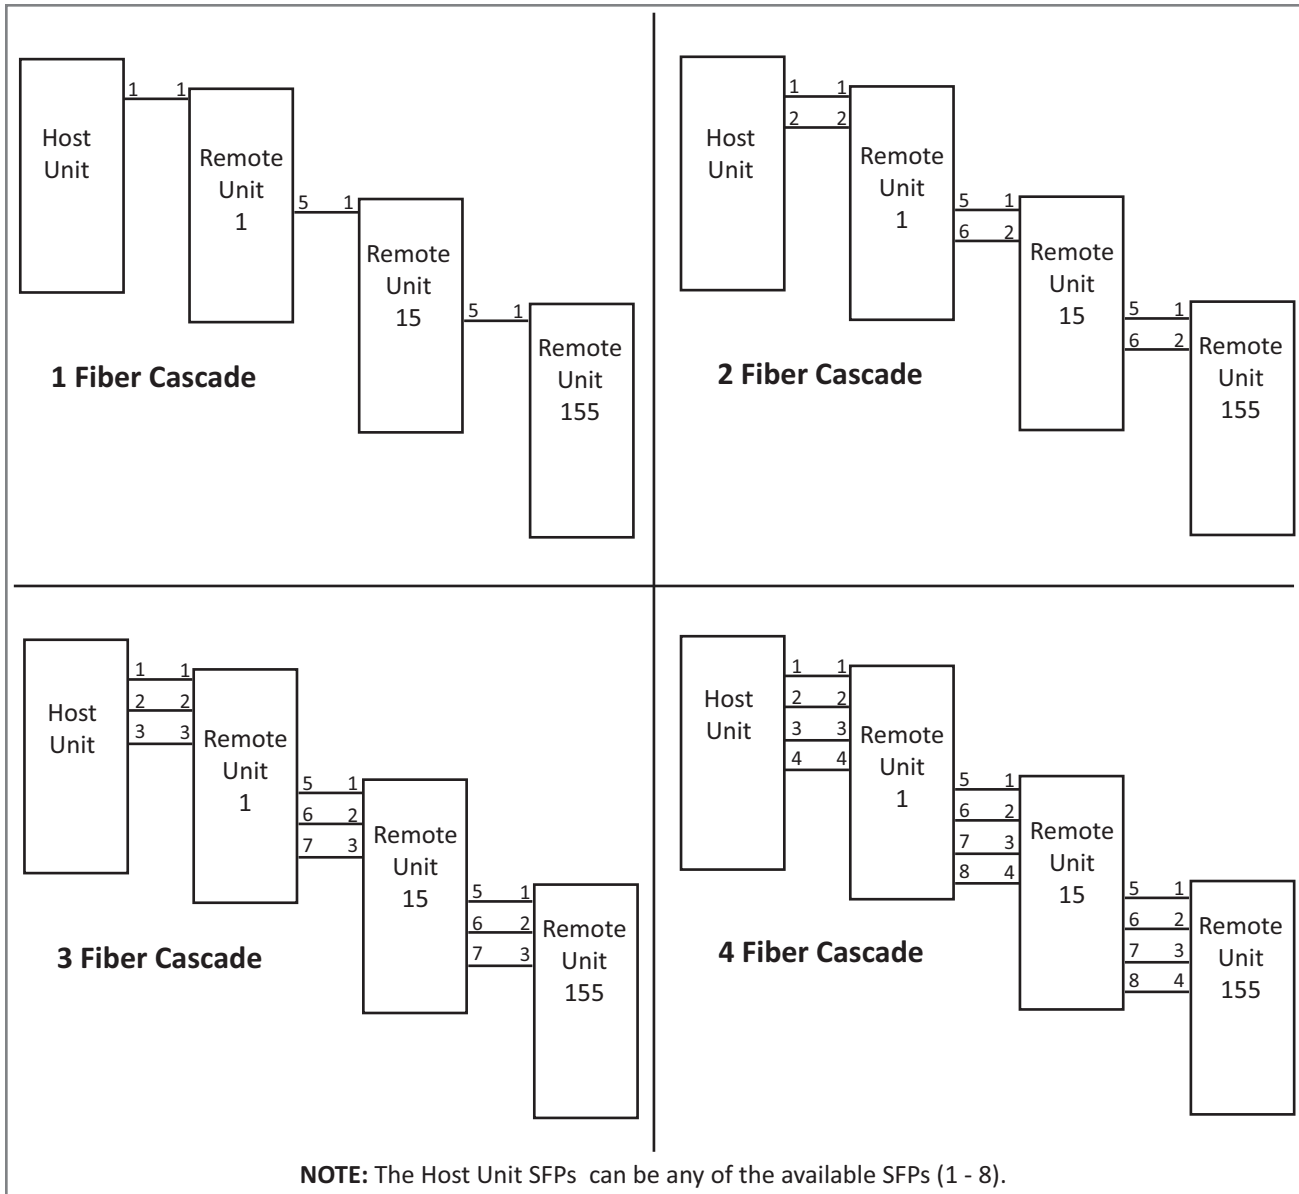

Figure 15. Matching Host Unit and Cascaded Fibers
- The fibers in and out of a Remote Unit must follow a N+4 rule. That is, if a Remote Unit has an input fiber on SFP 1, then the output is on SFP5. This applies to all Remote Unit, with the exception of the last cascaded Remote Unit as it would not require outgoing fibers. See Figure 15 on page 65 for an illustration of this rule.
- All cascaded Remote Units must have the same number of upstream (RX) and downstream (TX) fibers. If 4 fibers from the Host Unit are directed to the Remote Unit, 4 fibers must cascade to the next Remote Unit. The last Remote Unit in a cascade does not have downstream fibers. This ensures that all RF on a Remote Unit can be cascaded. See Figure 15 on page 65 for an illustration of this rule.